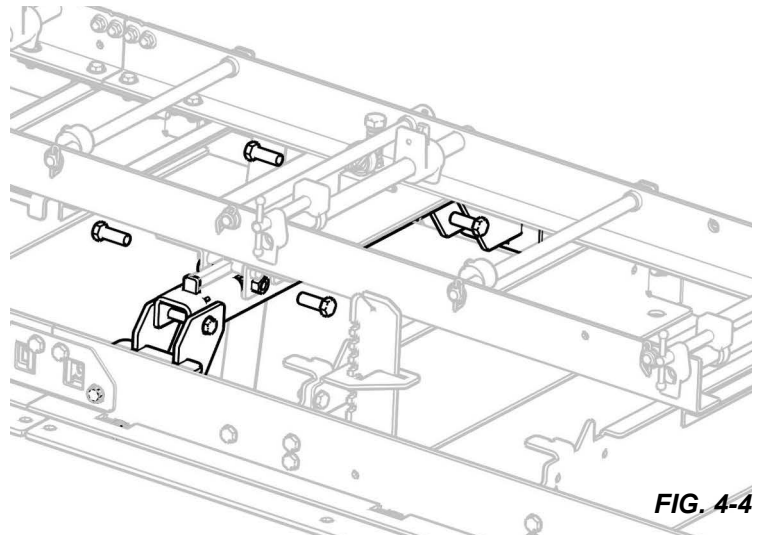

FIG. 4-4
6. Secure SLR with the bolts in front, Section FIG. 4-4